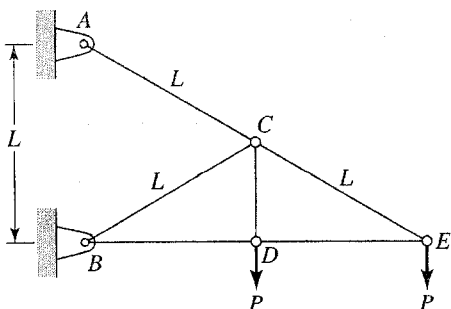

FIGURE P5.25
5.25. Find the vertical deflection of point C in the truss shown in Figure P5.25. All members have the same cross section and are made of the same material.